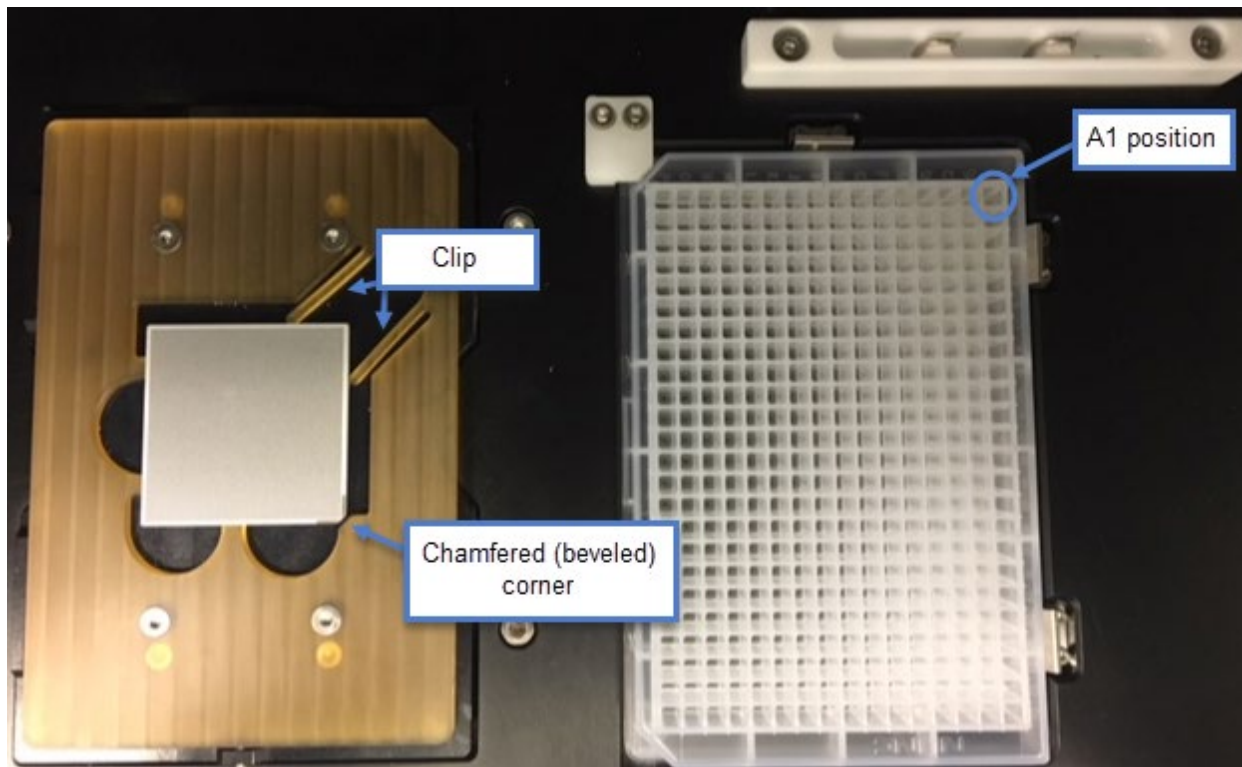

Figure 4. ICELL8 cx Single-Cell System stage module. (Left) chip nest. (Right) source plate nest.
- All dispensing steps in the ICELL8 cx Single-Cell System Stage Module should be performed with the chip oriented with the chamfered (beveled) corner positioned towards the lower-right corner of the chip nest (Figure 4, left).
- All dispensing steps in the ICELL8 cx Single-Cell System Stage Module should be performed with a 384-Well Source Plate oriented with the A1 well positioned at the top-right corner of the source plate nest. (Figure 4, right).